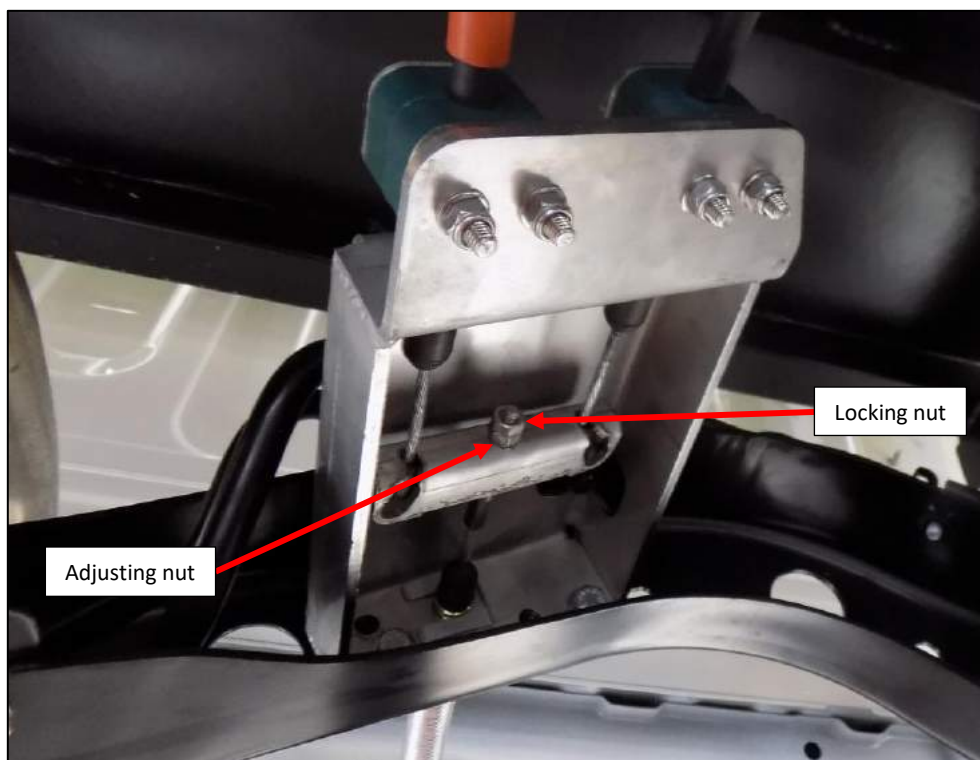

Figure 55
3. With the park-brake released, wind in the adjusting nut to take up any slack in the cables (Figure 55). Confirm both wheel-ends are still free. A correctly adjusted park-brake should apply firmly at approximately 5 to 6 ratchet clicks on the park-brake lever.